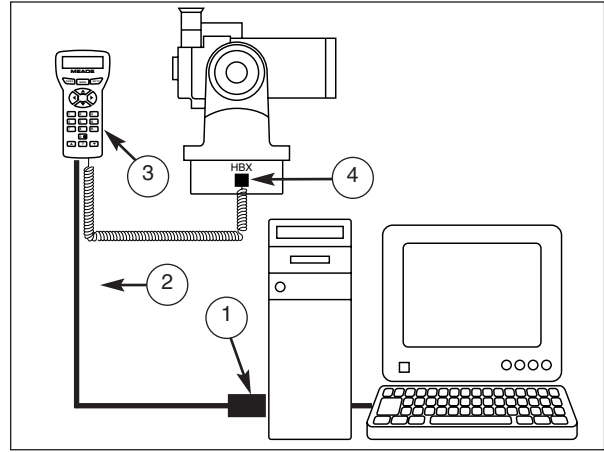

Fig. 1: Connector Cable connects between a PC and Autostar for telescope computer control or download capabilities.
2. Connect the serial interface adapter (1, Fig. 1) to the RS-232 port on a PC.
3. Connect the 6-pin end of the 6-foot, 4-pin to 6-pin round cable (2, Fig. 1) to the serial interface adapter, then the 4-pin end to the RS-232 port at the base of the Autostar (3, Fig. 1).
4. Connect the Autostar coil cord between the HBX port (4, Fig. 1) on the telescope computer control panel and the coil cord connector port on Autostar.
3. Connect one end of the 6-foot, 6-pin to 6-pin Autostar II cable (2, Fig. 1) to the serial interface adapter, then the other end to the leftmost RS-232 port of the LX200 computer panel.